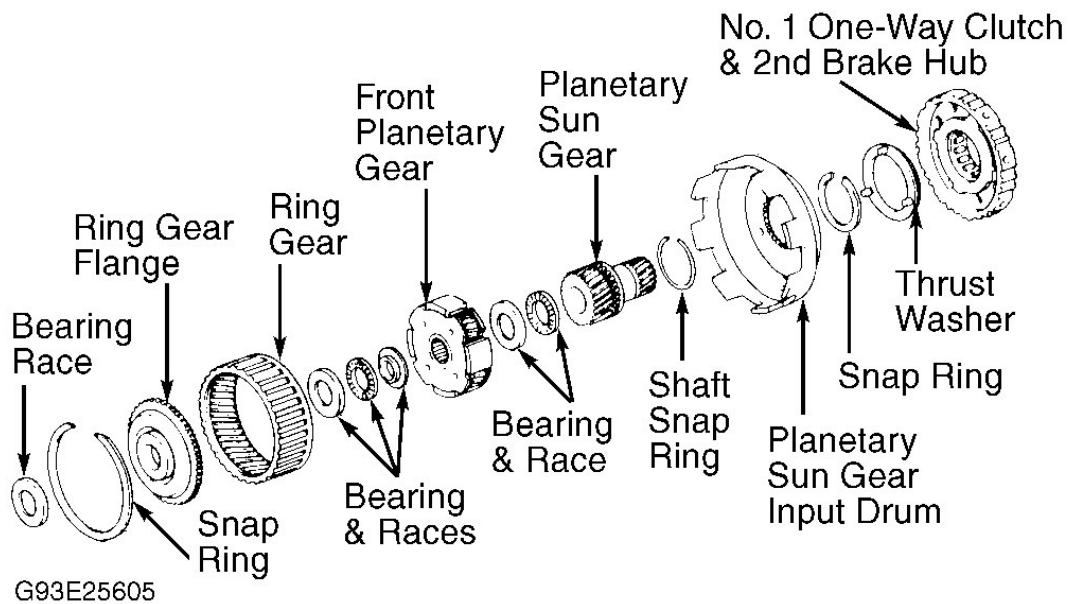

Fig. 38: Exploded View Of Front Planetary Gear
2. Remove thrust washer from sun gear input drum. Remove snap ring. Remove sun gear input drum. Remove shaft snap ring from sun gear. Remove one-way clutch retainer if clutch requires replacement. Remove one-way clutch from hub. See **Fig. 38** .
Install shaft snap ring to sun gear. Install sun gear to drum. Install snap ring to drum. Install thrust washer to sun gear input drum. See **Fig. 38**. Rotate hub clockwise. Install one-way clutch and 2nd brake hub. Check one-way clutch operation. Hold sun gear and rotate hub. Hub should rotate freely clockwise and lock counterclockwise.